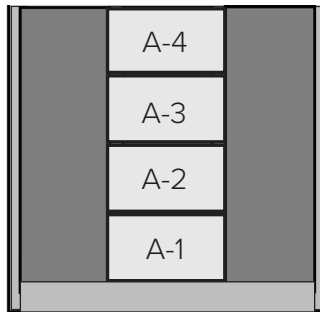

Figure 3.4
**TIP:** The system is designed for the vertical panels to sit tight against the horizontal panels as shown in Figure 3.4.